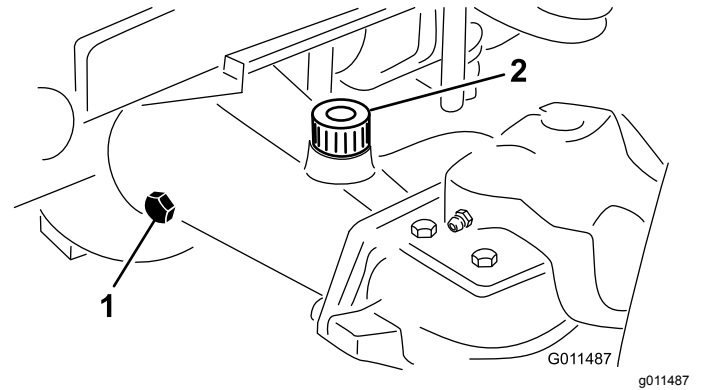

Figure 106
2. Remove a check plug from the end of the axle and ensure that the lubricant is up to the bottom of the hole (Figure 106).